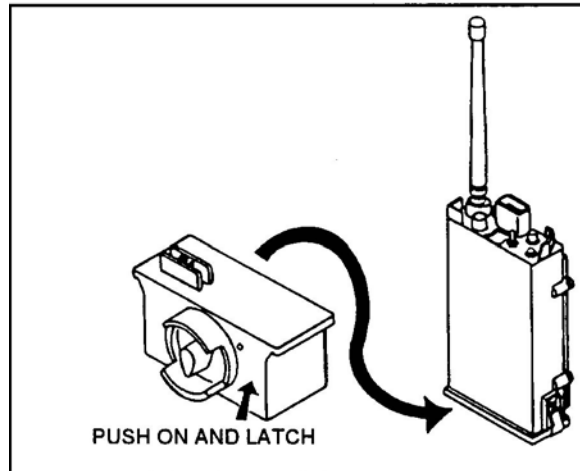

Figure 17. Wire Link secured to the receiver.
- c. Secure the wire link to the bottom of the receiver using the wire link connector (Figure 17).